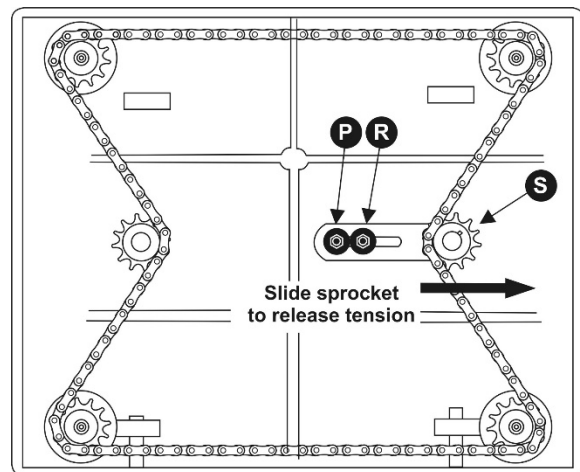

Figure 9-3
4. Remove bolt (P, Figure 9-3) and loosen bolt (R) which will allow enough movement of idler sprocket assembly (S) to release tension on chain.
7. When adjustments are correct, replace chain around corner sprocket, slide idler sprocket (S, Figure 9-3) back to re-tension chain, tighten bolt (R) and insert and tighten bolt (P).